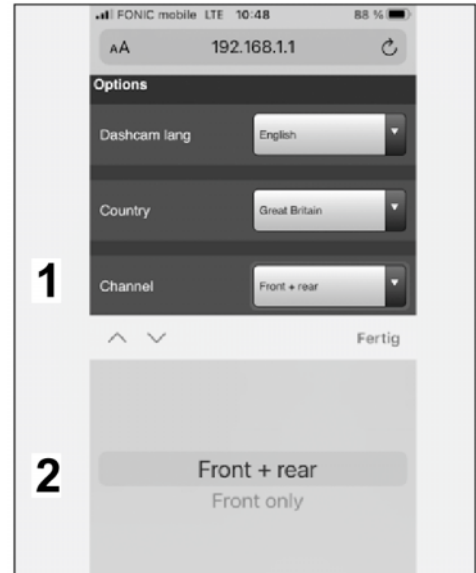

Figure 23
5.3.3 Select the required camera channel (⇒ Figure 23).